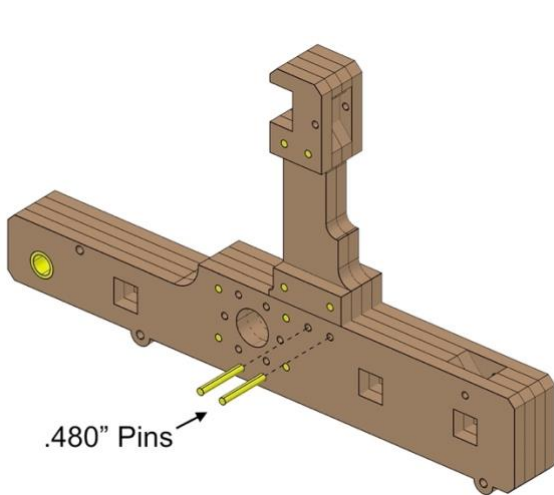

Fig. 11
- Align parts exactly as shown in *Fig. 11*.